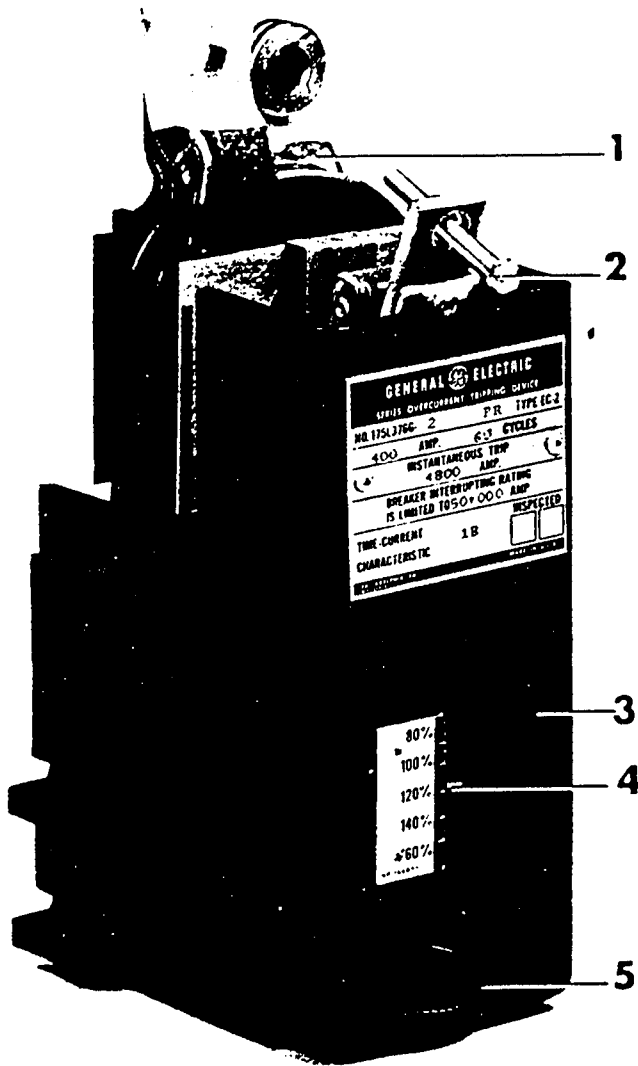

Figure 10. (8024842) EC-2 Overcurrent Trip
By means of the adjustment knob (5), Figure 10, which can be manipulated by hand, the current pick-up point can be varied from 80 to 160 percent of the series coil rating. The indicator and a calibration plate (4), Figure 10, on the front of the case provide a means of indicating the pick-up point setting in terms of percentage of coil rating. The calibration plate is indexed at percentage settings of 80, 100, 120, 140 and 160.
The low-set instantaneous pick-up point may be varied by the adjustment knob (5), Figure 10. The calibration in this case usually ranges from 80% to 250% of the series coil rating, the calibration plate being indexed at values of 80%, 100%, 200% and 250% of the rating.
Positive tripping is achieved when adjustment screw (2), Figure 10, is in such a position that it will always carry the trip paddle on the trip shaft beyond the point of tripping the mechanism, when the armature closes against the magnet.
In order to make the adjustment, first unscrew trip screw (2), Figure 10, until it will not trip the breaker even though the armature is pushed against the magnet. Then, holding the armature in the closed position, advance the screw until it just trips the breaker. After this point has been reached, advance the screw two additional full turns. This will give an overtravel of 1/16 of an inch and will make sure that activation of the device will always trip the breaker.
Adjustment screw (2), Figure 10, can best be manipulated by an extended 1/4 inch hex socket wrench.